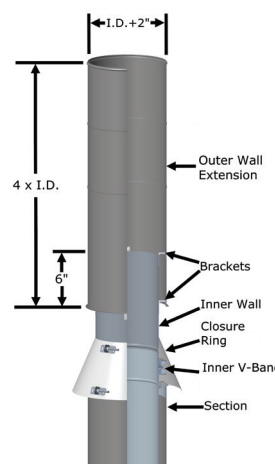

Figure 71a - No Loss Cap (NLC) installed or I.D. from 5" to 13"
larger outer wall (I.D. +2") that has a height of 4 times the flue diameter and is open at the bottom. The Closure Ring (CR) must be seal to the inner wall with outer Sealant S-375. Rain water that falls into the larger wall washes down the side of the larger chimney and discharges at the bottom. See Figure 71a.
For I.D. from 5" to 13", the No Loss Cap is an integral component that attaches to the chimney flue using a standard inner V-Band (BSI) (See JOINT ASSEMBLY Section). For Models DAS1, DIS1, DIS2 and DIS4, a Closure Ring (CR) is provided to protects the insulated space between standard pipe inner and outer. See Figure 71a.